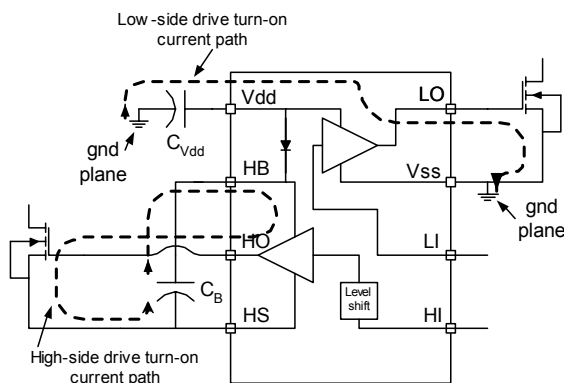

Figure 9. Turn-On Current Paths
Figure 9 shows the critical current paths when the driver outputs go high and turn on the external MOSFETs. It also helps demonstrate the need for a low impedance ground plane. Charge needed to turn-on the MOSFET gates comes from the decoupling capacitors C_{VDD} and C_B . Current in the low-side gate driver flows from C_{VDD} through the internal driver, into the MOSFET gate and out the Source. The return connection back to the decoupling capacitor is made through the ground plane. Any inductance or resistance in the ground return path causes a voltage spike or ringing to appear on the source of the MOSFET. This voltage works against the gate drive voltage and can either slow down or turn off the MOSFET during the period where it should be turned on.
3. Trace out the high di/dt and dv/dt paths, as shown in Figures 9 and 10 and minimize trace length and loop area for these connections. Minimizing these parameters decreases the parasitic inductance and the radiated EMI generated by fast rise and fall times.